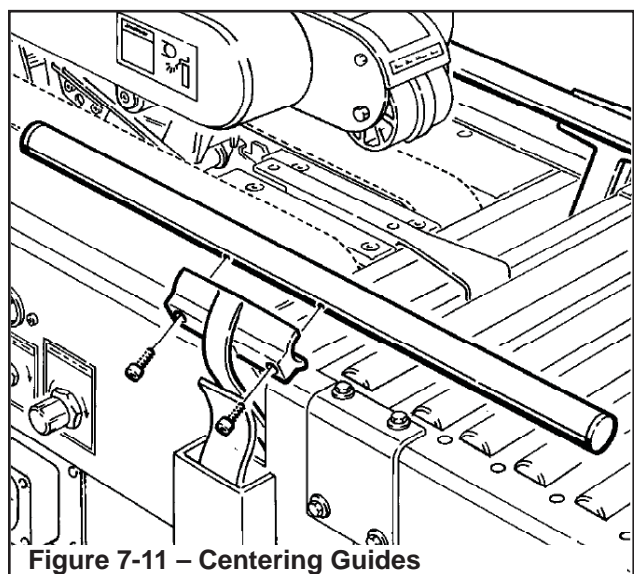

Figure 7-11 – Centering Guides
1. Remove the two centering guides and four (4) M6 x 20 socket head screws from the package.
2. Using a 5mm hex key wrench, attach the centering guides to the rails with four (4) M6 x 20 screws (two [2] in each guide) as shown in **Figure 7-11**.